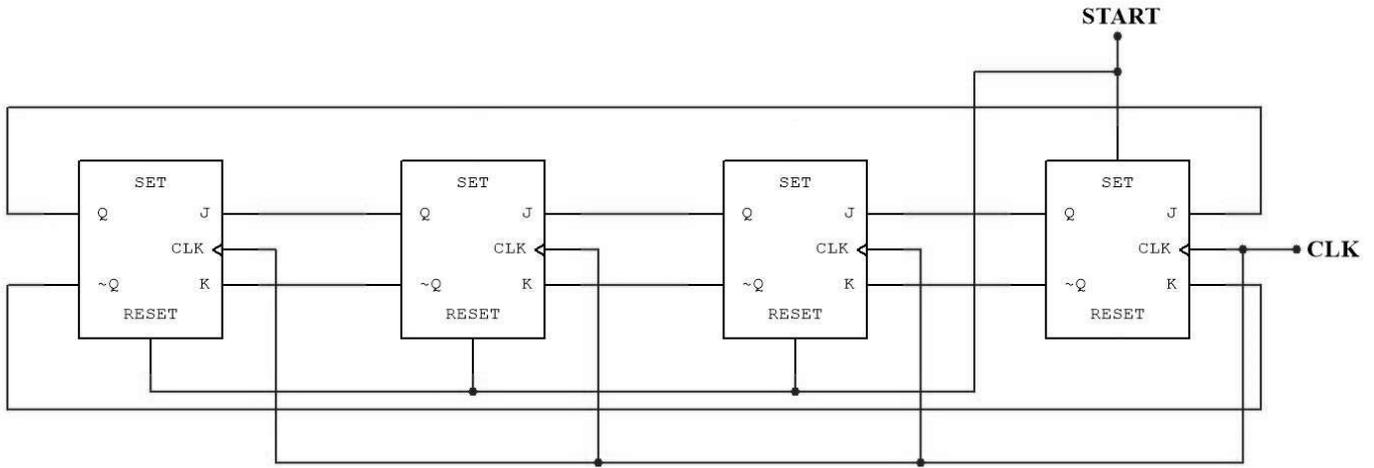
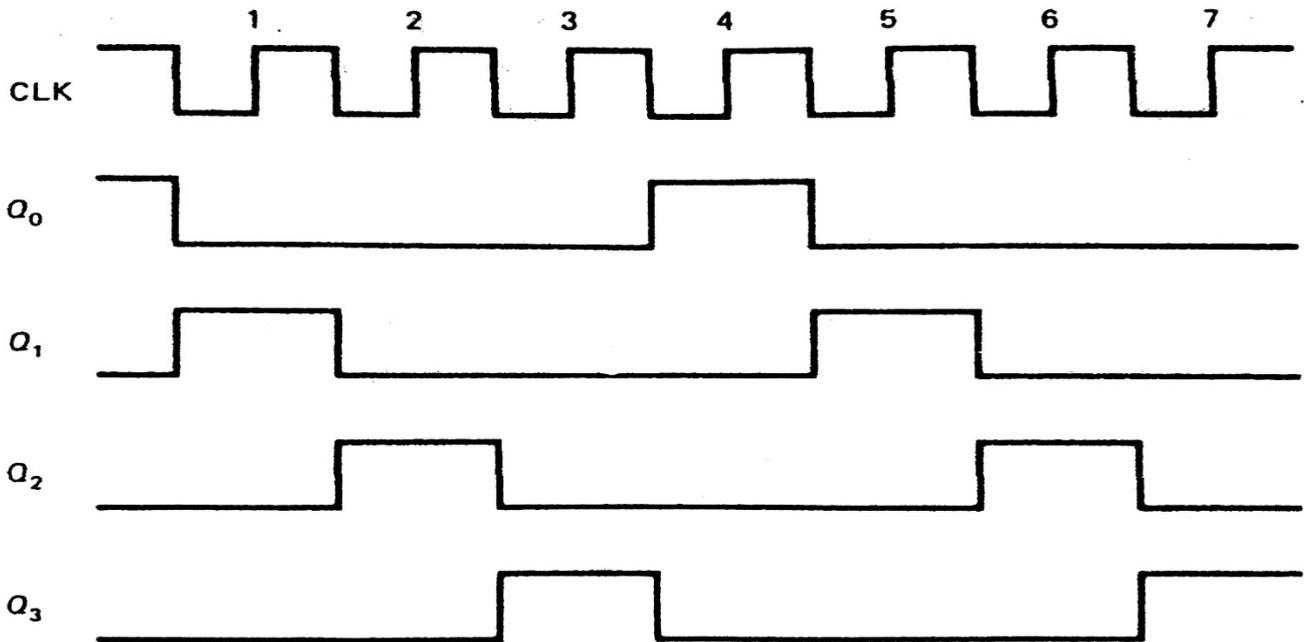

Figure 4.4. Ring Counter
Figure 4.5. Ring Counter Timing Diagram
Figure 4.4 illustrates a ring counter. It is constructed by connecting the Q and \bar{Q} outputs from one flip-flop to the J and K inputs of the next flip-flop. To complete the ring, the outputs of the final flip-flop are wired to the inputs of the first flip-flop. This counter has the characteristic that one and only one flip-flop is set ($Q=1$) at any time. To start the counter, FF_0 is set and the rest are reset (note the application of the start input to the FF_0 preset input and the FF_1 to FF_3 reset input). Since the outputs of each flip-flop are connected to the inputs of the following unit, FF_1 is receiving set inputs while the others are receiving reset inputs. The effect is that on the first clock cycle FF_1 goes set while the rest are reset. The set condition has shifted from FF_0 to FF_1 . As clock cycles arrive, this set condition continues to shift around the ring. The process is illustrated in the timing diagram of figure 4.5. A truth table is not required for this circuit because of the exclusive nature of the single set flip-flop for each clock cycle (count).
3. Which flip-flop of the ring counter in figure 4.4 is set on the 19th clock cycle after START is released?